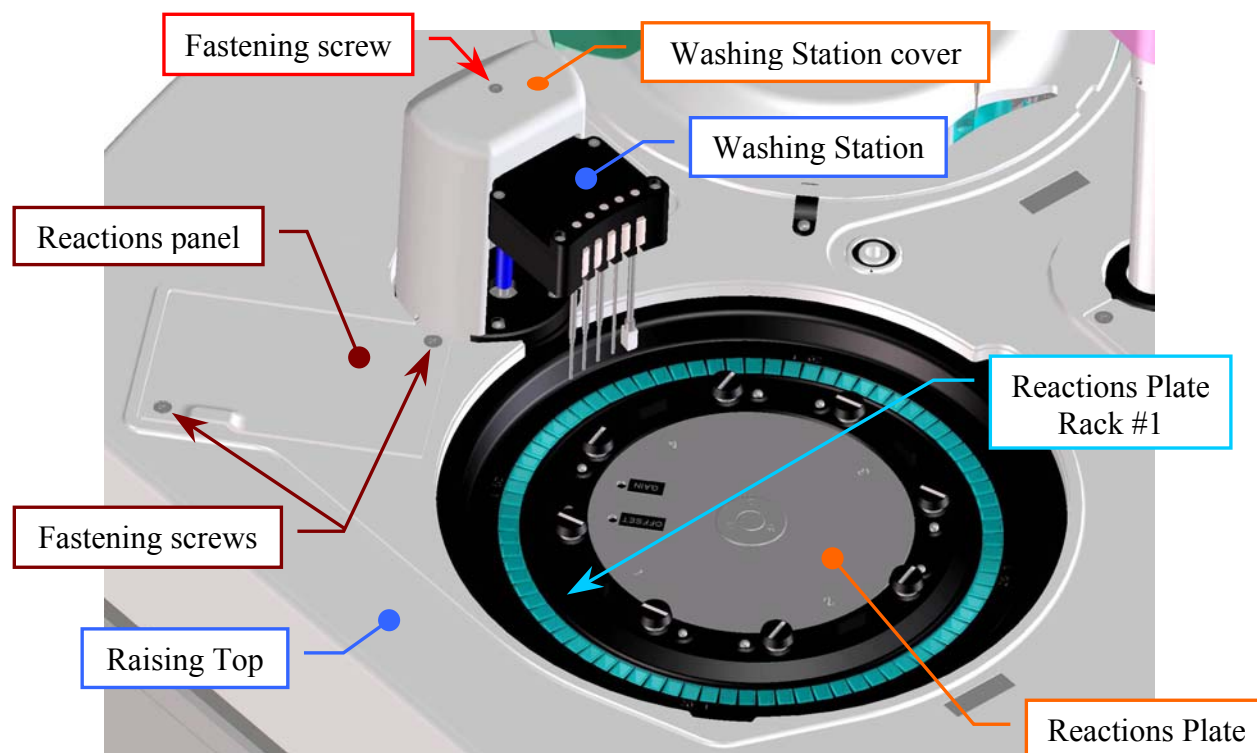

Fig. 107 – Reactions Plate
2. Take a Reactions Plate Rack with a opaque cuvette #1, then substitute the Reactions Plate Rack #1 (**Fig. 107**) with this new Rack.
- unscrew the two fastening screws of the Reactions panel placed on the Raising Top near the Washing Station (**Fig. 107**) and take out the panel from the Raising Top;
11. Position the Reactions panel in its housing on the Raising Top (**Fig. 107**) and screw its two fastening screws.
16. Substitute the Reactions Plate Rack with the opaque cuvette #1 with the original Reactions Plate Rack #1 (**Fig. 107**).